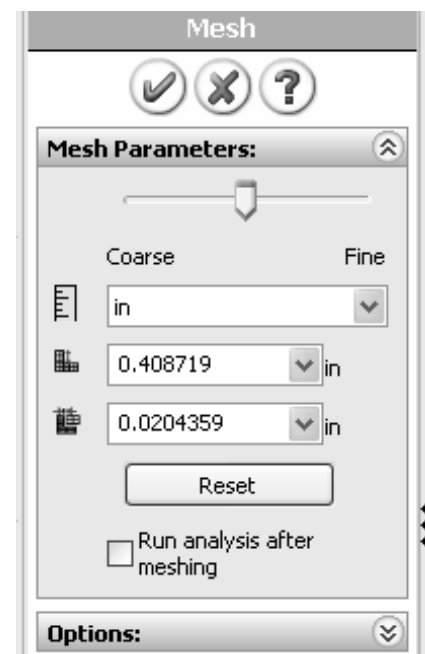

Figure 13 (a) – **Mesh** property manager showing system default **Mesh** settings applied to the current model.
1. In the COSMOSWorks manager, right-click **Mesh** and from the pull-down menu select **Create Mesh...** The **Mesh** property manager opens as shown in Figs. 13 (a) and (b).